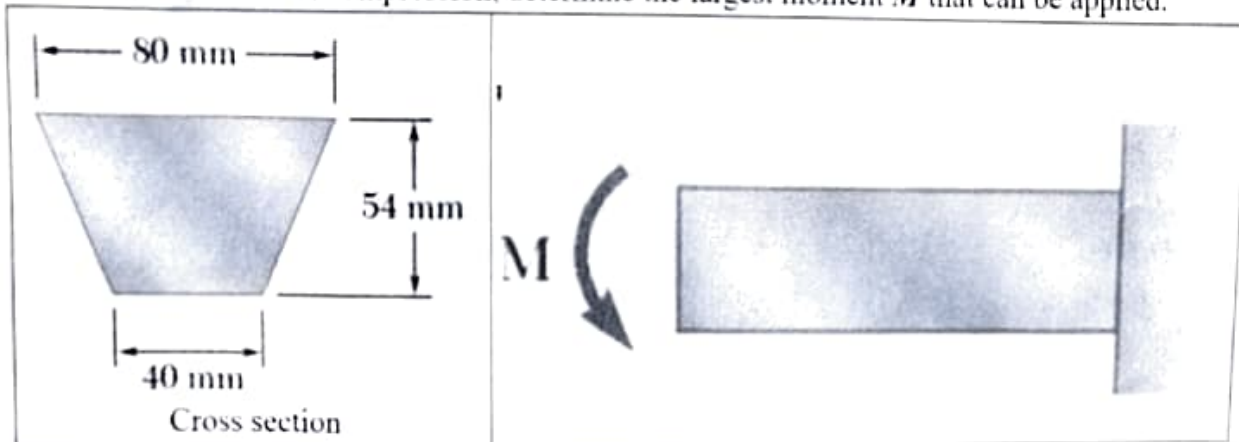

Figure 2
2. Knowing that for the cantilever beam shown in Figure 2, the allowable stress is 120 MPa in tension and 150 MPa in compression, determine the largest moment M that can be applied. [12]